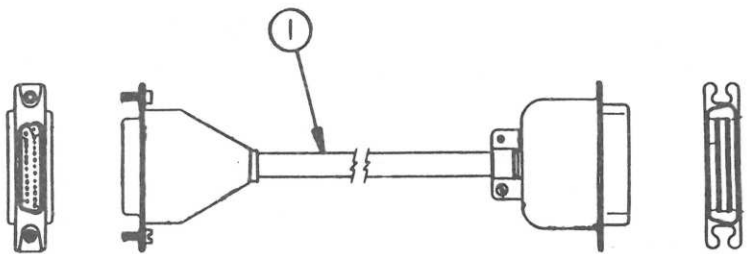

FIGURE 5
- 5.5 Cable (Figure 5)
□ CABLE (Figure 5)
(Figure 5)**